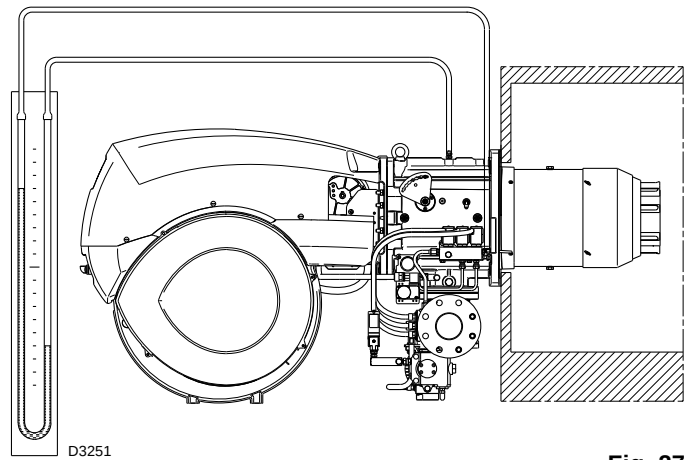

Fig. 27
- Fit a U-type manometer or a differential pressure gauge (Fig. 27), with the (+) fitting on the header gas pressure tap and (-) fitting in the combustion chamber.
In this case increase gas firing delivery. The arrival of gas at the sleeve is indicated by the U-type manometer (Fig. 27).